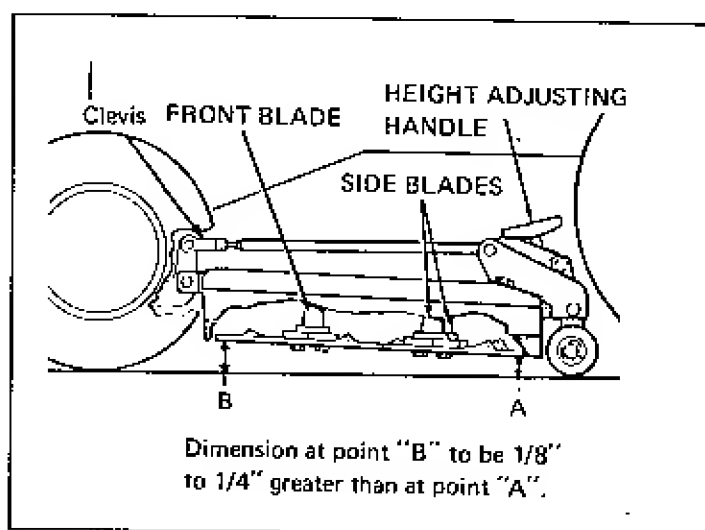

FIGURE 16
8. Check mower for proper front-to-rear adjustment (Figure 16).